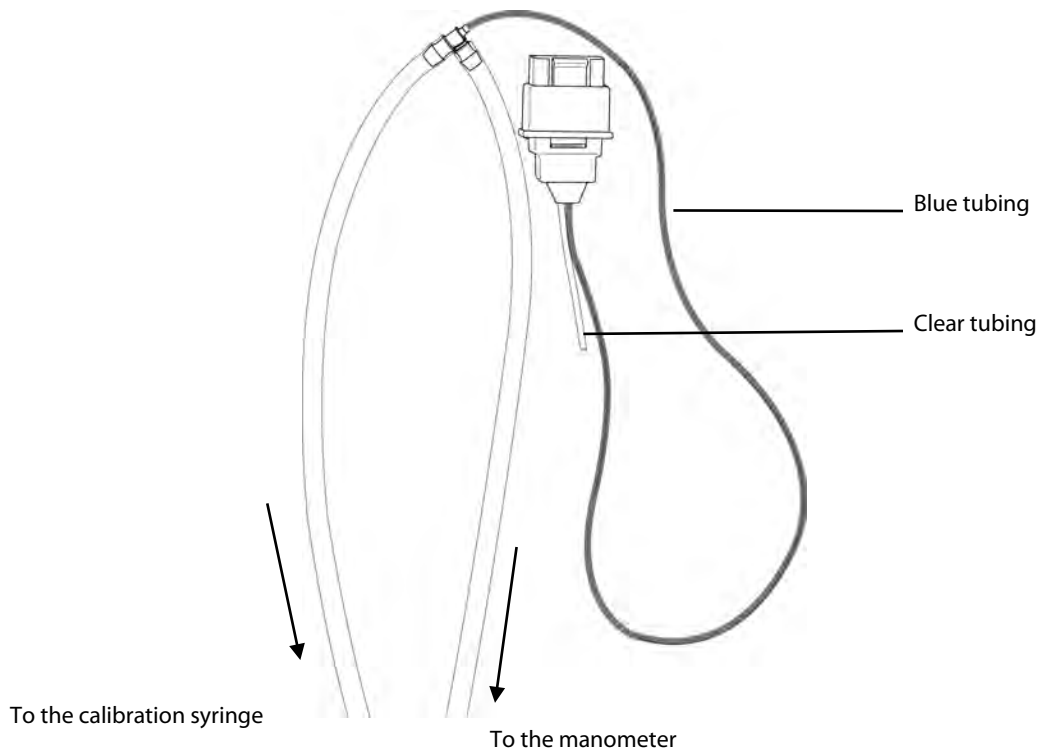
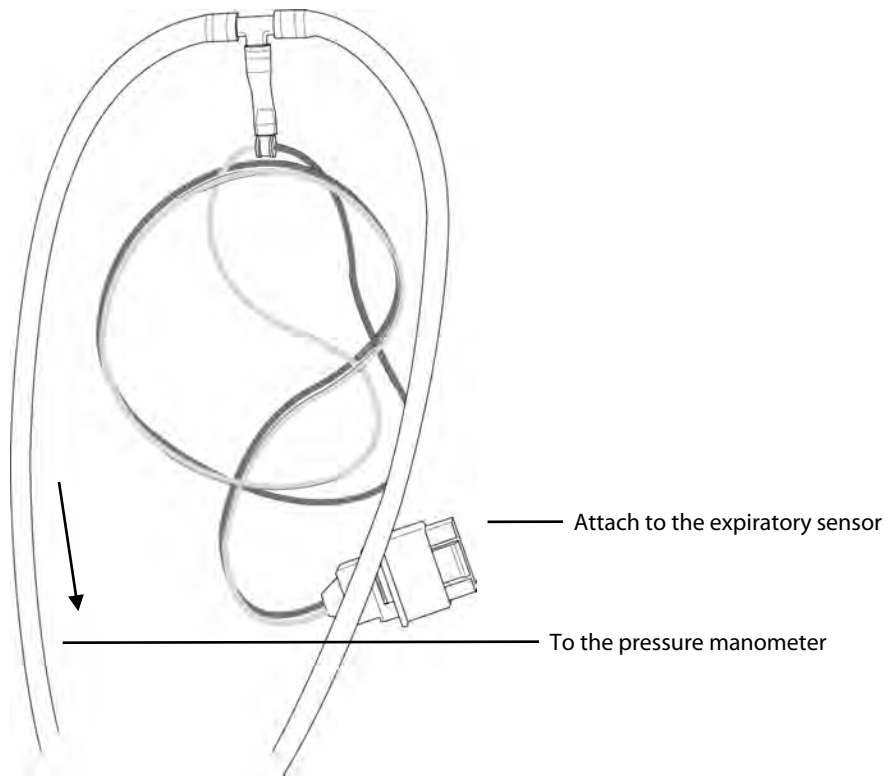
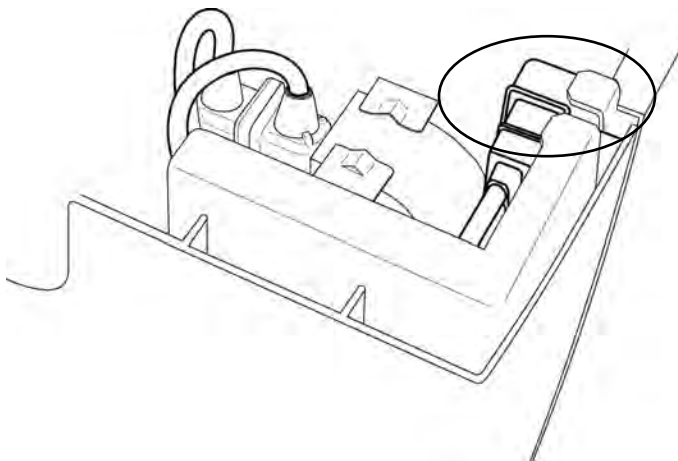

Figure 7.14
Figure 7.18
Figure 7.19 Expiratory Sensor connector location
3. Attach the calibration set up (Figure 7.14) to the Wye Flow sensor port on the front of the Avea. Attach the *blue tube only* of the Wye flow sensor to the basic calibration tubing assembly using a barbed fitting. Leave the clear tube unattached as shown here
2. Remove the expiratory flow sensor connector (see Figure 7.19).
4. Attach the calibration set up as in Figure 7.18 to the expiratory flow sensor port located in Figure 7.19.
2. With nothing attached to the expiratory flow sensor port (Figure 7.19) press the 0 cmH_2O touch screen button.
3. Using the same sensor connector and tubing setup as the wye flow calibration (Figure 7.14), carefully attach the setup to the expiratory flow port as shown in Figure 7.19.